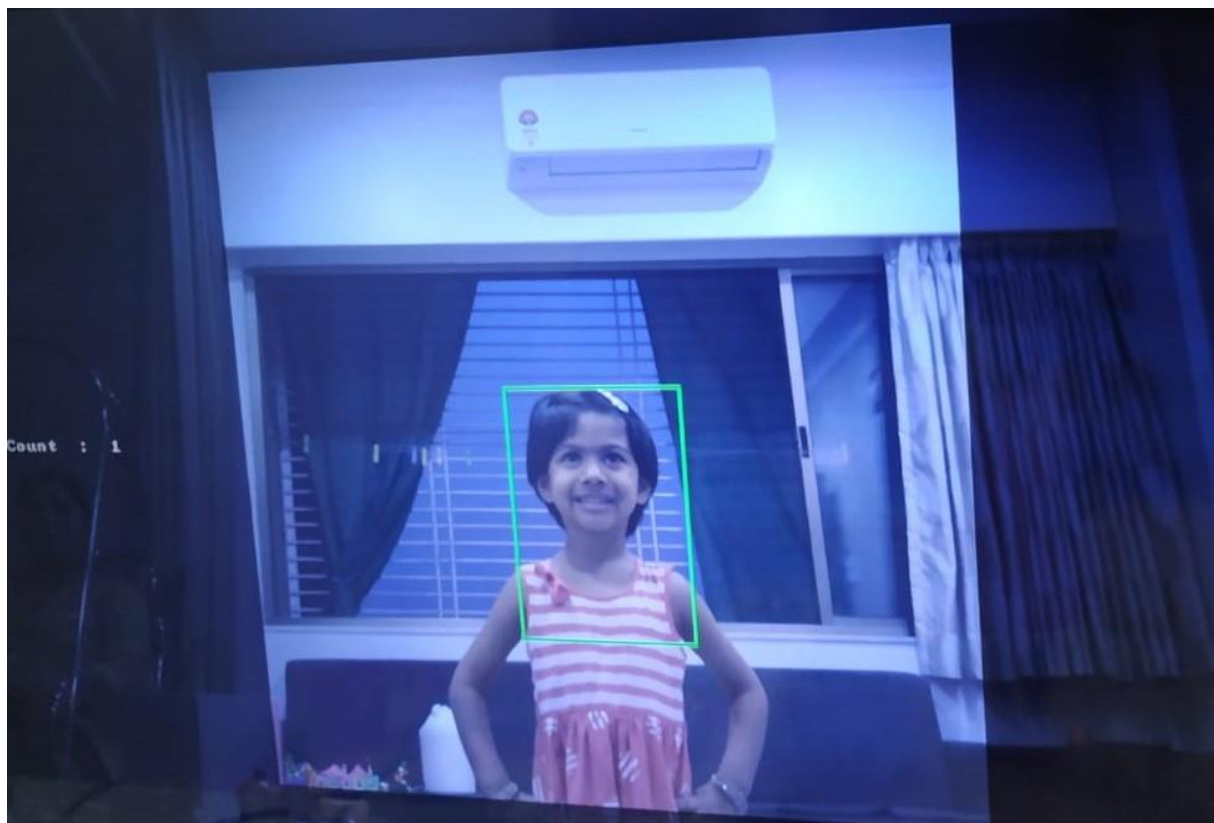

Figure 5.1. Running the Demo
2. Connect the Embedded Vision Development Kit to the HDMI monitor. The camera image is displayed on monitors as shown in Figure 5.1.